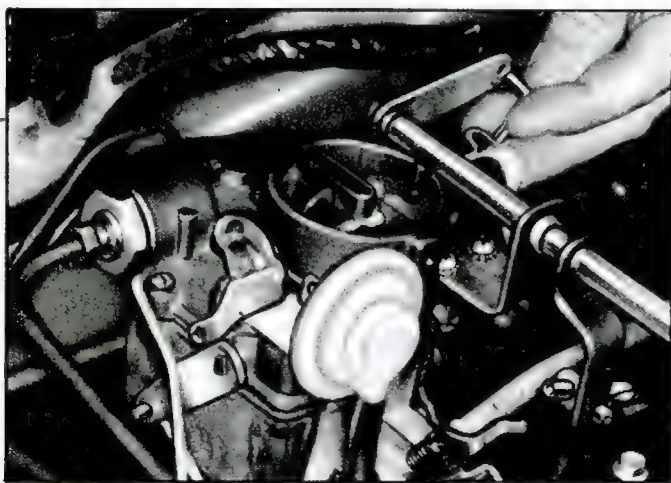

Fig. 8—Adjusting Throttle Rod
8. Adjust throttle rod on L/H carburetor by holding up on rod (so throttle shaft lever is against idle screw) and turning rod in lower swivel until rod freely enters hole in cross shaft lever (fig. 8).